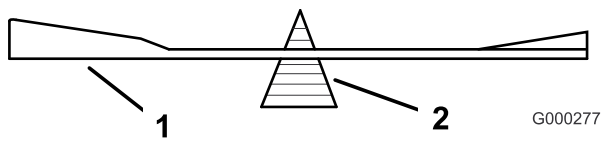

Figure 98
2. Check the balance of the blade by putting it on a blade balancer (Figure 98). If the blade stays in a horizontal position, the blade is balanced and can be used. If the blade is not balanced, file some metal off the end of